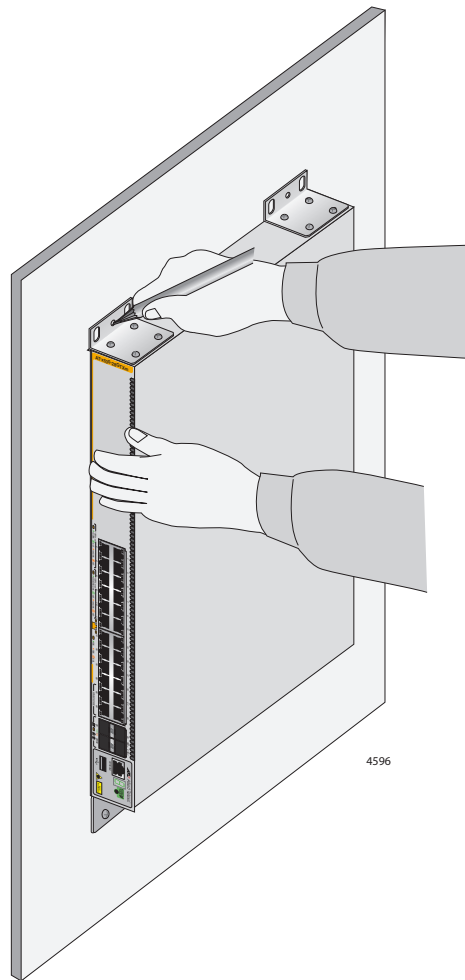

Figure 44. Marking the Locations of the Bracket Holes on a Concrete Wall
3. After attaching the brackets, have another person hold the switch on the concrete wall at the selected location for the device while you use a pencil or pen to mark the wall with the locations of the four screw holes in the four brackets (one screw per bracket). Refer to Figure 44 on page 107.